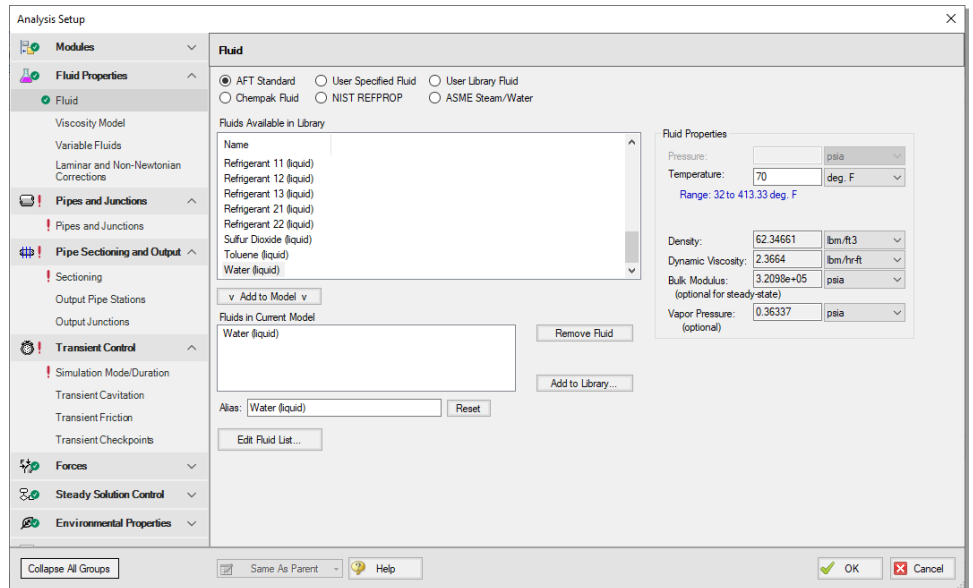

Figure 2.11 The Fluid panel is where you specify the fluid
- **Select the AFT Standard library and select Water (liquid)** in the Fluids Available in Library list, then click the “Add to Model” button. Enter a temperature of 70 deg. F. This satisfies the required inputs for the Fluid panel and Fluid Properties group. This Fluid panel should appear as shown in Figure 2.11.